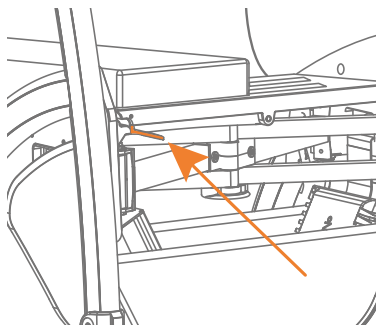
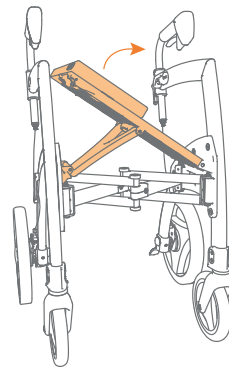

Figure 18: Push the red handle while lifting the seat.
Figure 19: Lift the seat partially.
- Push the red release handle under the seat (**Figure 18**) and lift the seat partially (**Figure 19**).